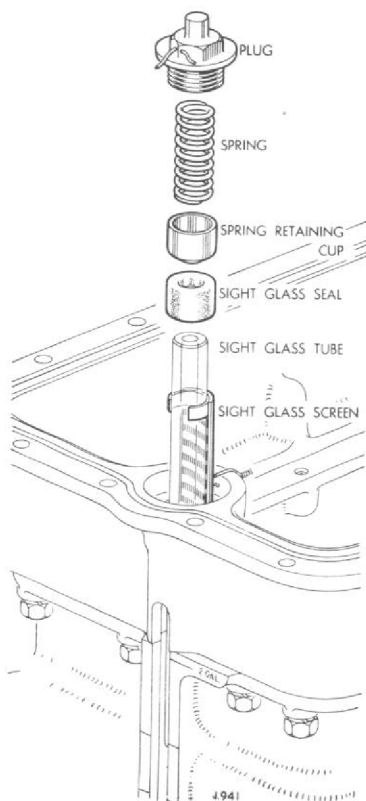

Fig. 3. Oil level sight glass tube assembly.
2. Remove the plug, spring, spring retaining cup and seal from the sight glass upper location and carefully withdraw the sight glass and screen, Fig. 3.